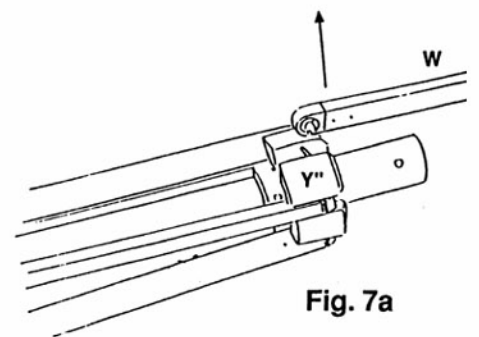

Fig. 7a
3. (fig. 7a) rotate the rib by 180° and release the other end from the upper hub(Y'') by pulling forcefully upwards.